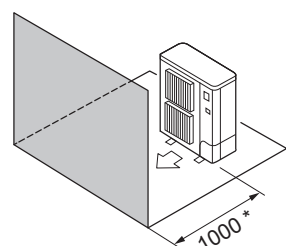

Fig. 2-10
- ④ Obstacles at front only (Fig. 2-10)